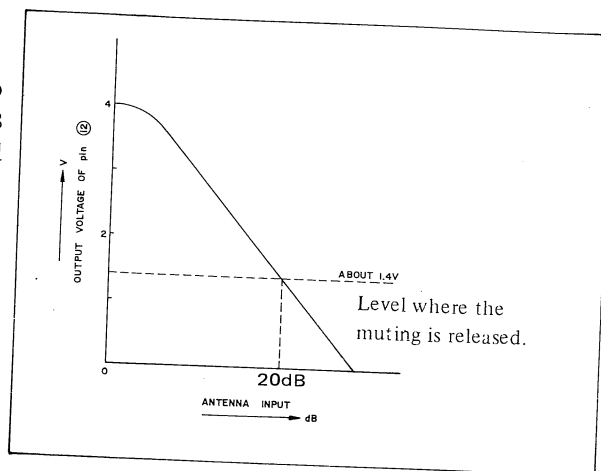

Figure 13
Figure 13 shows the output voltage of two outputs, one is at the pin (12) of IC101 and another, at the collector of transistor Q103, to be added together.